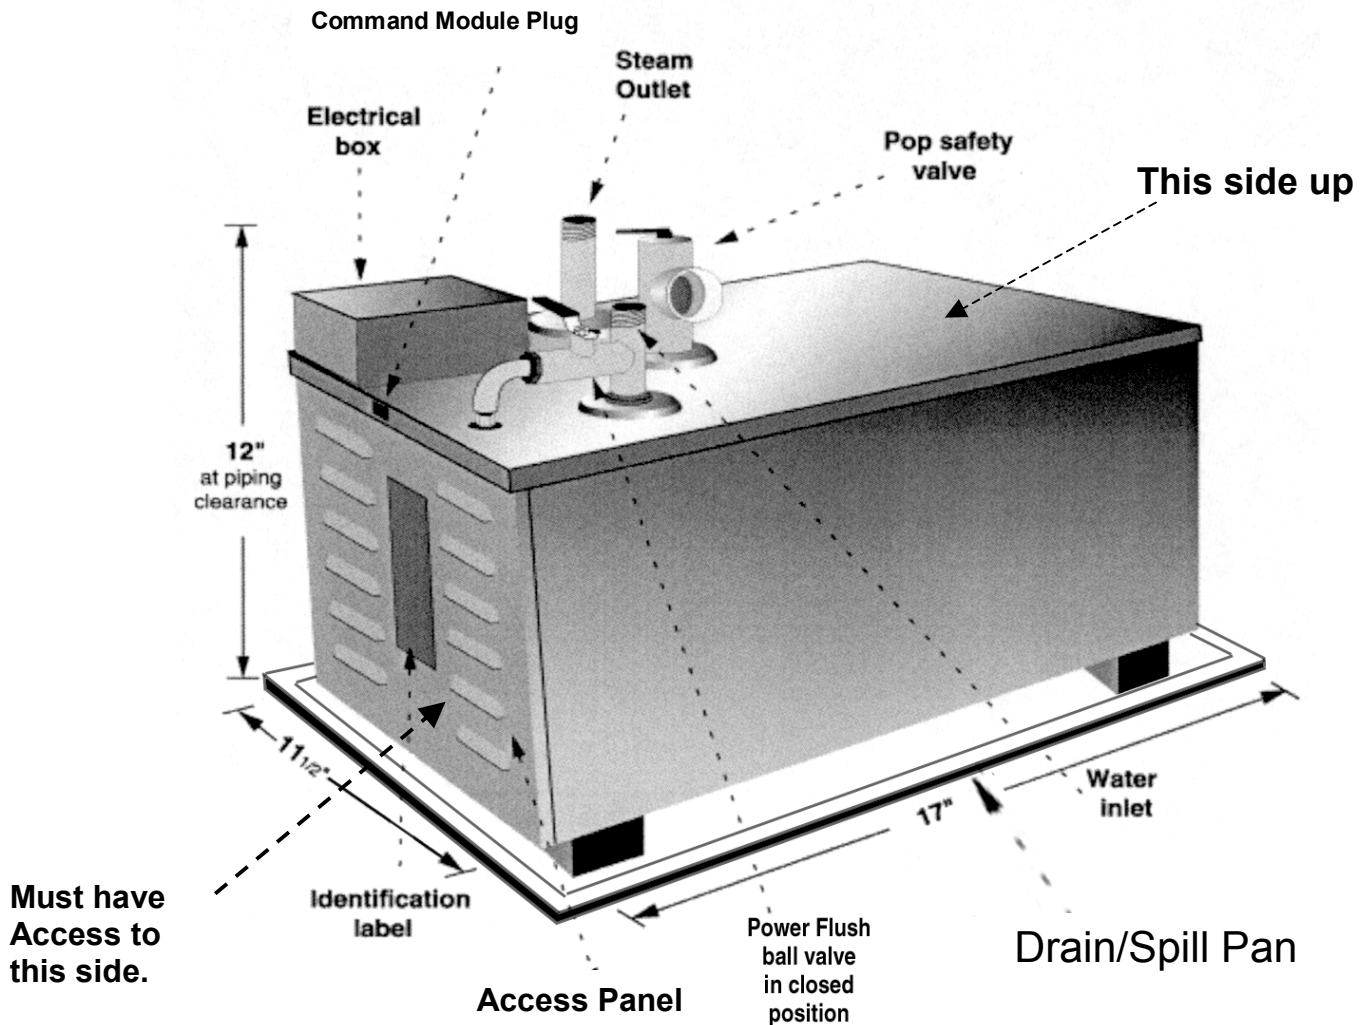

Figure 1
4. The **generator must be upright, accessible and on a level surface** with **all** connections on top. **Access panel and Power Flush valve must be unobstructed and allow for easy access (see figure 1).**